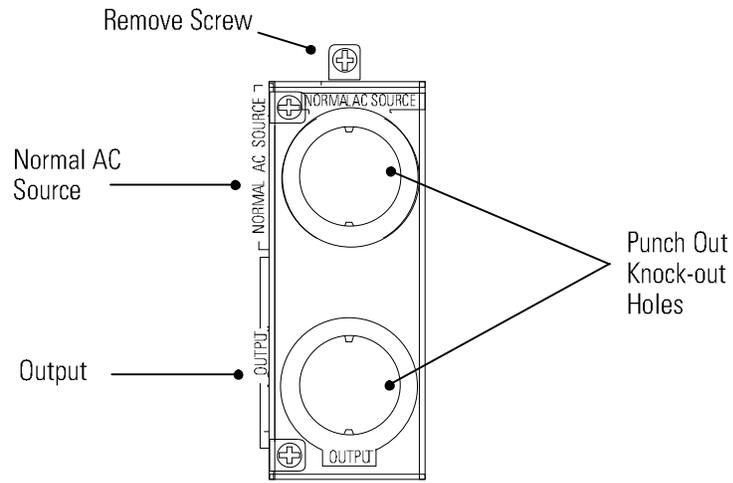

Figure 9. Removing the Terminal Block Cover
5. Use a Phillips-head screwdriver to remove the screw to detach the terminal block cover. Retain the cover and screw (see Figure 9).